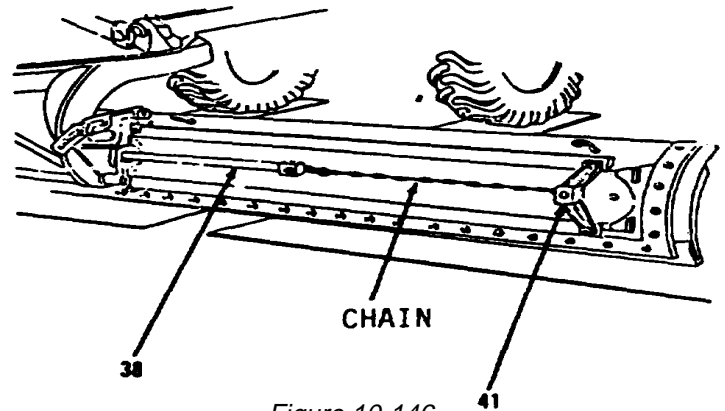
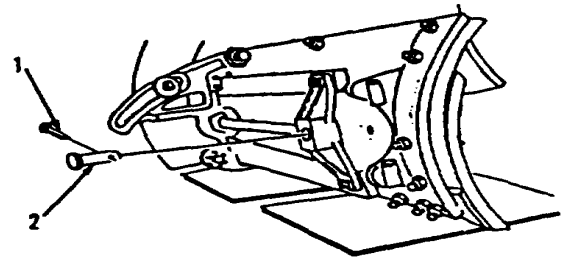

Figure 10-146.
Figure 10-139.
17. Connect chain to rod end of cylinder (38) and bracket (41, Figure 10-146).
19. Retract rod end of cylinder (38) and pull blade into position.
22. Install pin (2) and new cotter pin (1, Figure 10-139).